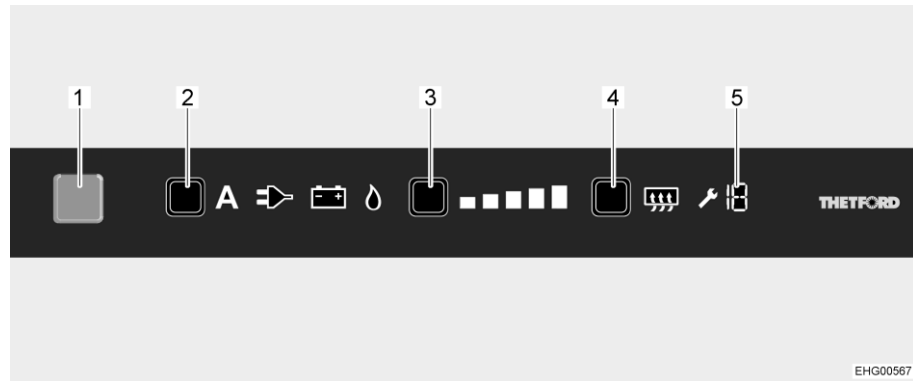

Fig. 100 Operating controls
When turned on the refrigerator automatically selects the thermostat position selected last. This setting can be adjusted manually by using the cooling level button (Fig. 100,3). The illuminated bars of the cooling level indicator show the selected thermostat position. The refrigerating temperature for all three types of energy is set with the cooling level button. It takes a few hours till the refrigerator reaches its normal operating temperature. When changing over the operating mode the thermostat setting will be maintained. The refrigerating temperature is retained regardless of the type of energy being used.
- Press and hold the On/Off button (Fig. 100,1) for 1 second. Button lights up blue. To save energy, after approximately 10 seconds the display is dimmed.
- Press the power selection button (Fig. 100,2) repeatedly until the desired energy source has been selected.
- Press the cooling level button (Fig. 100,3) repeatedly until the desired cooling level has been selected. The current cooling level is indicated by illuminated bars.
- Press and hold the On/Off button (Fig. 100,1) for about 2 seconds. All lights go out. Refrigerator is switched off.